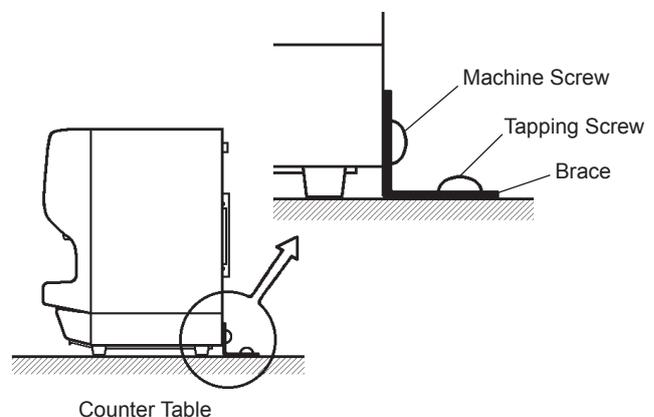

Fig. 2
* Secure the ice dispenser to the counter table by using the brace, machine screws and tapping screws (accessory). See Fig. 2.